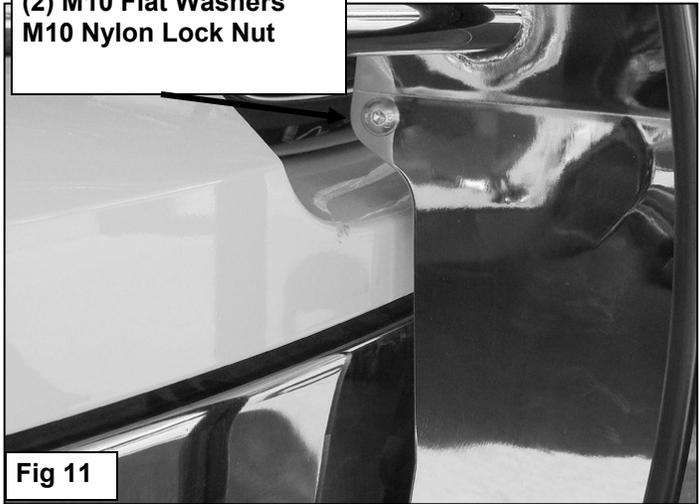

Fig 11
8. Attach the Grille Guard to both Top Brackets using the included (2) M10 Button Head Bolts, (4) M10 Small Flat Washers and (2) M10 Nylon Lock Nuts, (Figure 11). NOTE: Insert the M10 Button Head Bolts with M10 Flat Washers in from the outside of the Grille Guard. Do not tighten at this time.